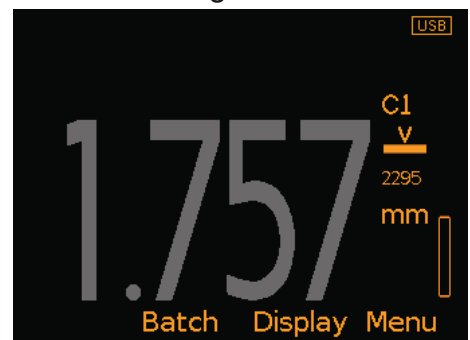

Figure 2
- ▶ The reading value turns grey when the probe is removed from the surface (Figure 2).